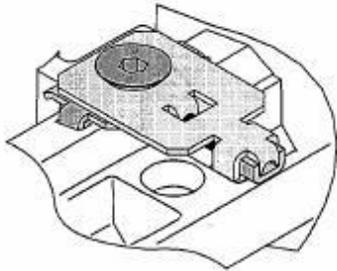

Figure 4 - CSM Clamp
6.06 Remove the Central Strength Member (CSM) clamps aligned with the cable ports to be used using the provided Allen wrench and set the clamp plates and screw aside for later installation. See **Photo 3 - CSM Clamp Removal** and **Figure 4**.